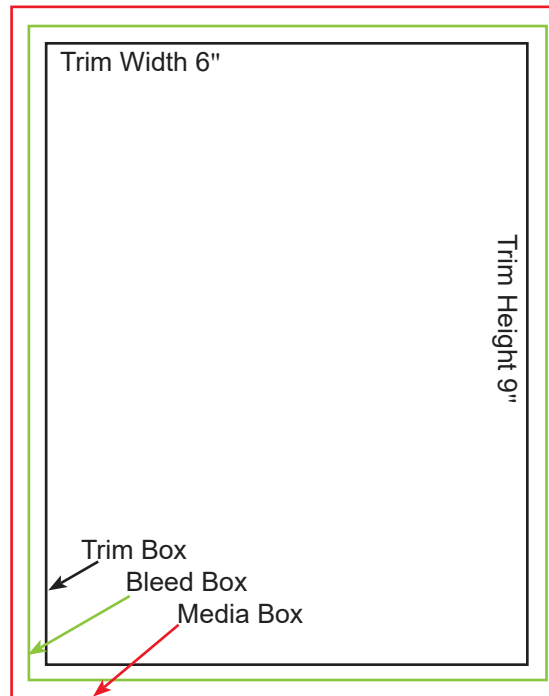

Figure 2
- ❑ PDF Trim Box must be set to the exact width and height of finished trimmed book. (See Figure 2)
- ❑ Any bleed elements must extend 1/8" past the trim box, except on bind edge should only butt to trim edge. (See Figure 2)
- ❑ Media box must be a consistent size and larger than the trim box only if bleed elements exist. (See Figure 2)